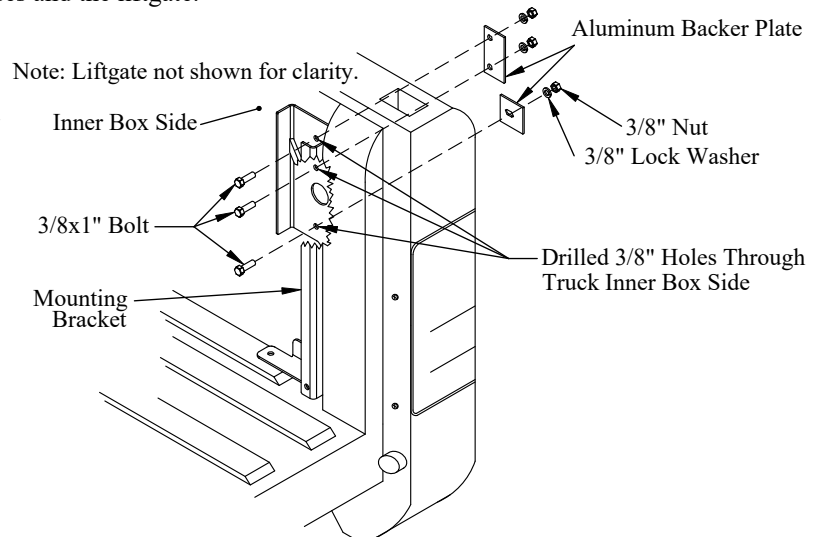

Figure 13: Mounting bracket and backer plates.
10. **Drill** three (3) 3/8" holes into the truck inner box side using three holes in the bracket as a guide (Figure 13).
11. **Fasten** each bracket to the truck inner box side using the supplied (Figure 13):